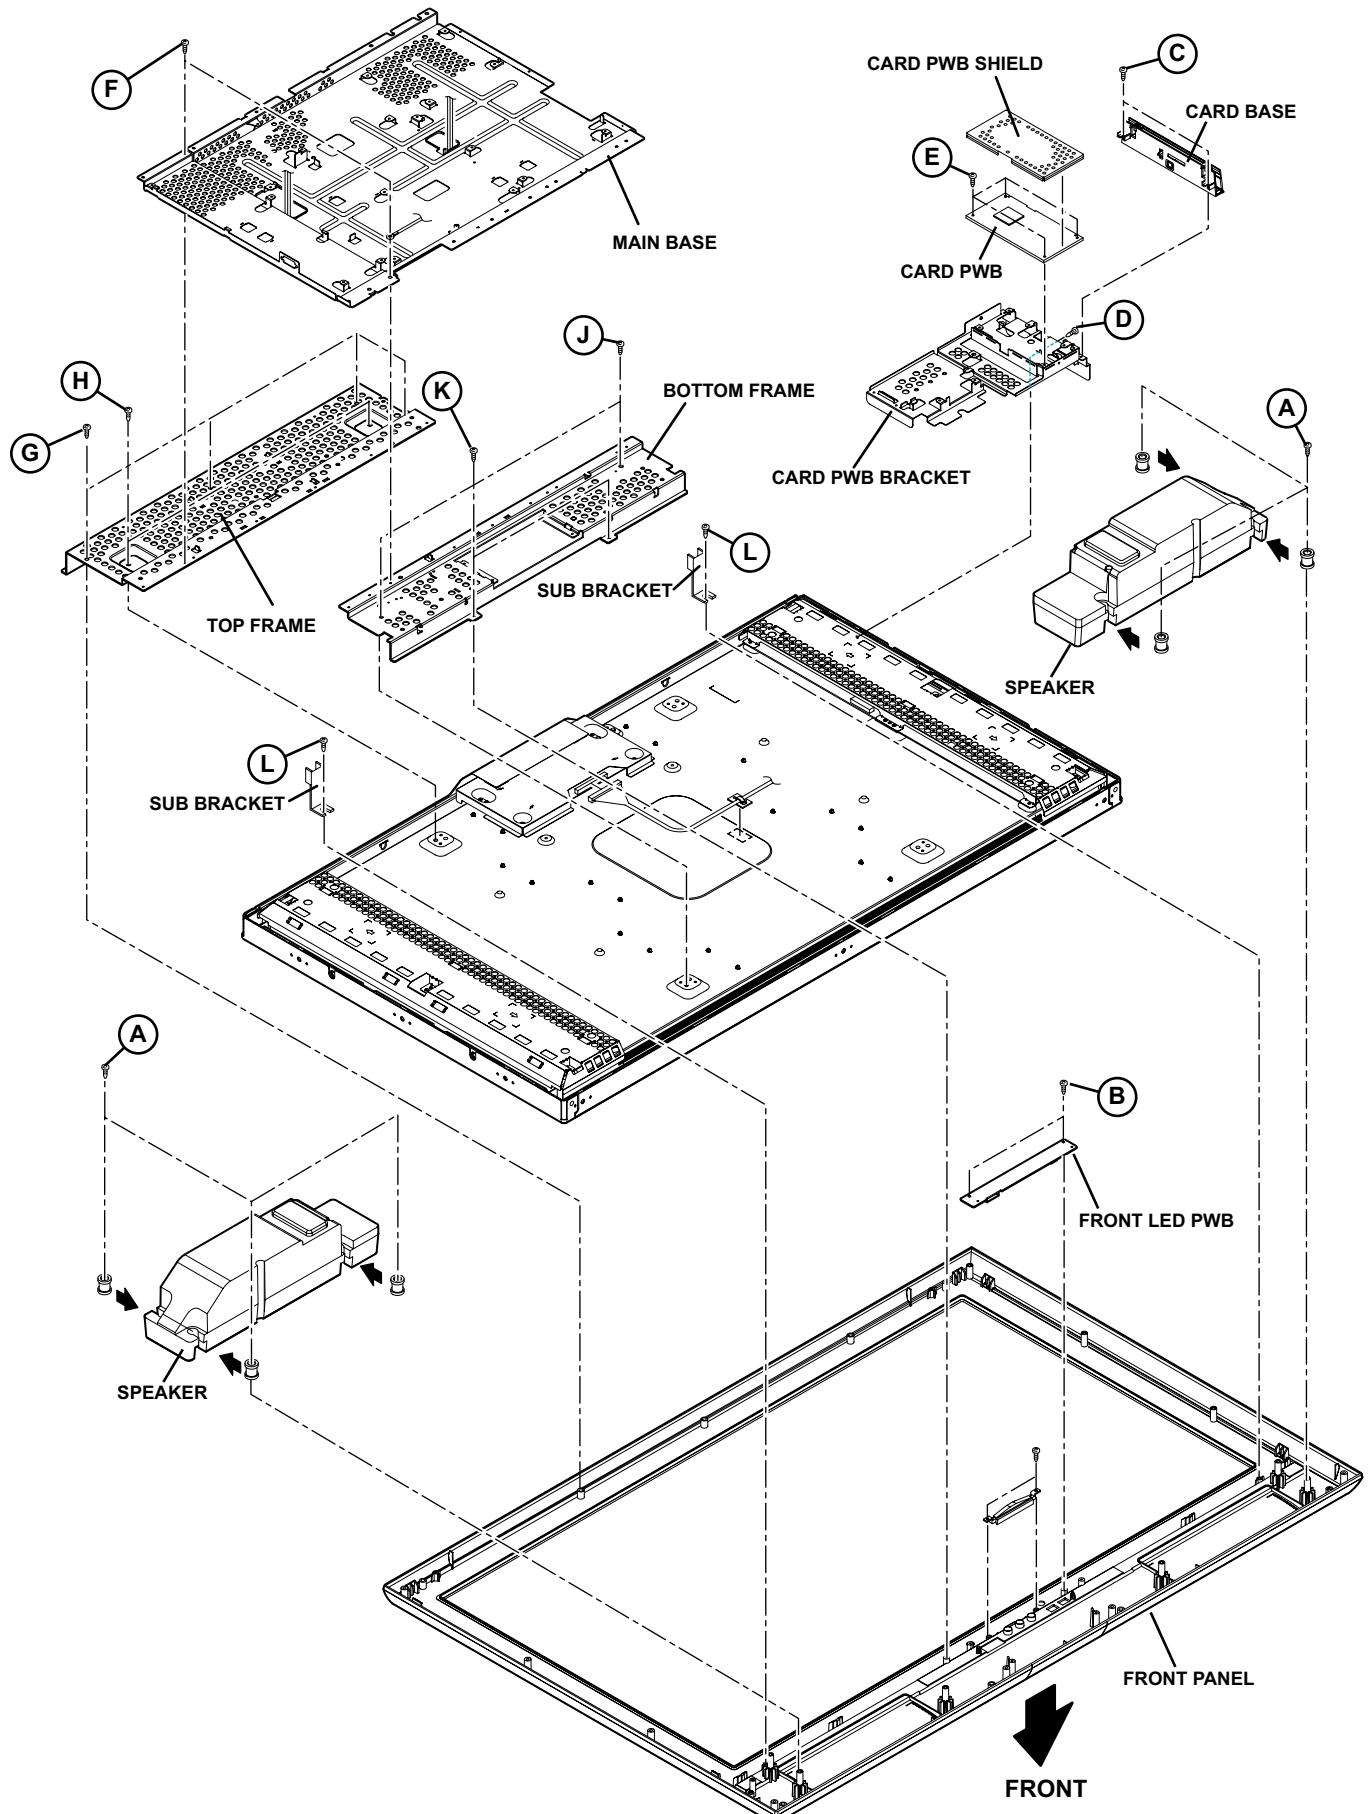

Fig.2
3.2.14 REMOVING THE SPEAKER (Fig.2)
3.2.15 REMOVING THE FRONT LED PWB (Fig.2)
- (1) Remove the 2 screws [B], then remove the FRONT LED PWB.
3.2.16 REMOVING THE LED LENS (Fig.2)
- (1) Remove the 2 screws [M], then remove the LED LENS.
3.2.17 REMOVING THE CARD PWB (Fig.2)
3.2.18 REMOVING THE LCD PANEL UNIT (Fig.2)